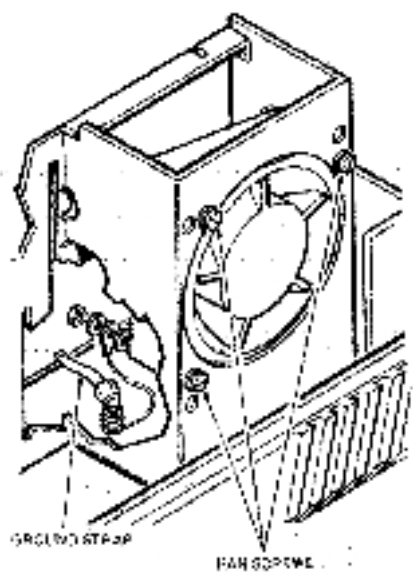

Figure 2-16 Fan Removal
3. Remove the three screws securing fan to card cage and disconnect ground strap (Figure 2-16).